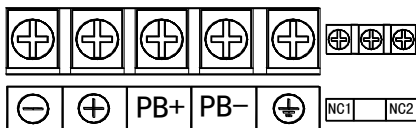

Figure 5-4 Main Circuit Terminal Block of BR100-160
- BR100-160 Main circuit terminal as shown in Figure 5-4